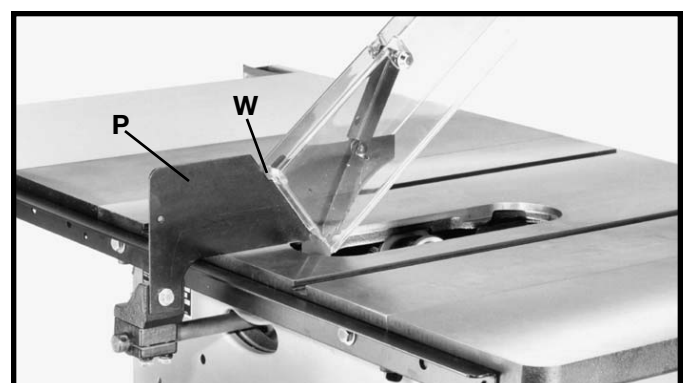

Fig. 22
10. **IMPORTANT:** The splitter (P) Fig. 22, features a notch (W) cut into the top edge. Simply raise the front of the clear blade guard (P) Fig. 22, until the rear edge of the guard slips into notch (W) of the splitter. This notch enables the blade guard to stay in the raised position and makes changing blades easier.